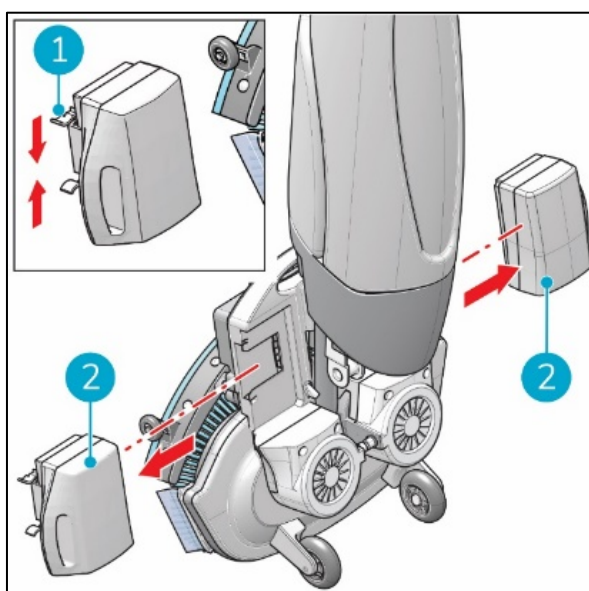

Figure 23
3. While pressing both plastic pins inwards (Figure 23, pos 1), pull each battery pack away (Figure 23, pos 2).